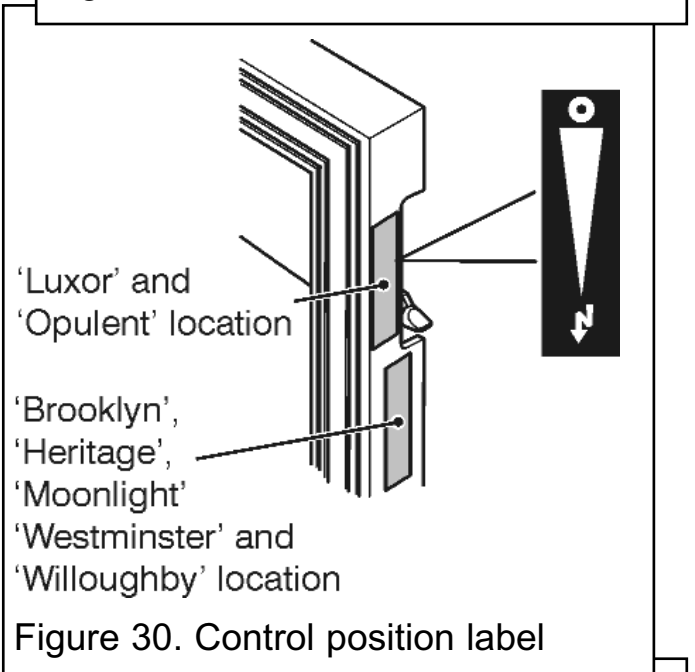

Figure 30. Control position label
4. Supplied with the fire is a self adhesive control position label. Peel the backing from the label and place as in figure 30.
6. Supplied with the fire is a self adhesive control position label. Peel the backing from the label and place as in figure 30.
3. Supplied with the fire is a self adhesive control position label. Peel the backing from the label and place as in figure 30.